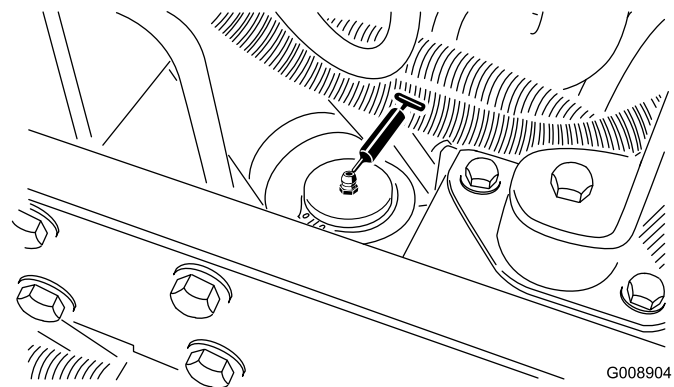

Figure 49
- Steering cylinder (Figure 49)